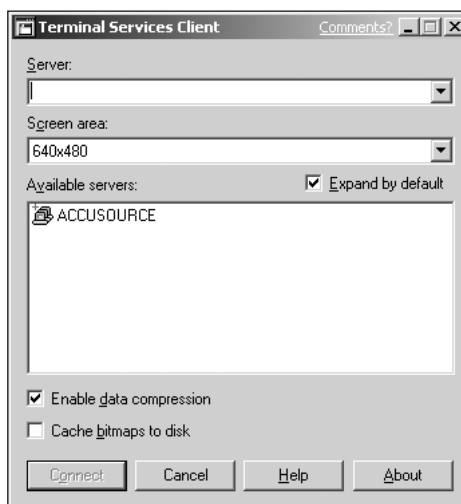

Figure 12-12 The Terminal Services Client dialog box
7. Log on again if necessary, and click **Start**, point to **Programs**, point to **Terminal Services Client**, and click **Terminal Services Client**. A dialog box like Figure 12-12 opens.